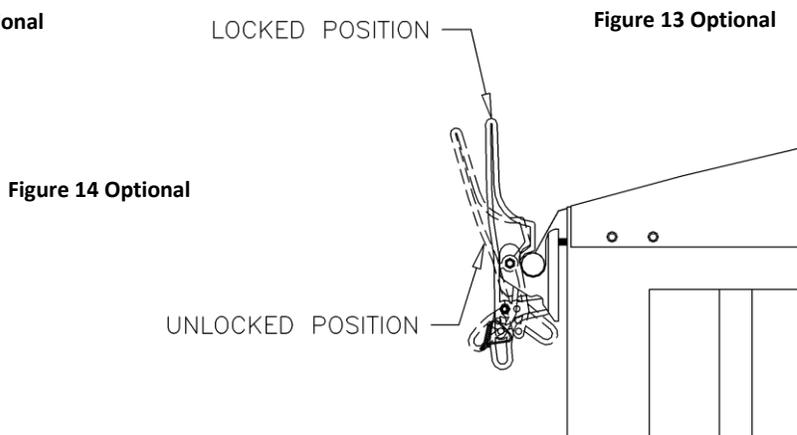

Figure 14 Optional
Procedure: Locate the front round bracket (J) 4 inches in from the face of the front end cap and 3/4" lower than the top edge of the trailer. Using a 5/16" drill bit, drill two holes through the predrilled holes in the bracket and into the trailer. Secure the bracket to the trailer using two 3/8"x1-1/4" self-threading bolts (K) provided. Remove the 1/4"x3" hex bolt (L) from the flip-release tarp stop (M). Insert the bolt through the bracket (J) and through the tarp stop (M). Secure using the 1/4" lock nut. Torque the bolt appropriately so the flip-release tarp stop will remain in the unlocked position (see Figure 14). Remove the quick pin from the bottom hole of the flip-release tarp stop and adjust the tarp stop so it is in the unlocked position (see Figure 14). Install the rear bracket 4 inches in from the face of the rear end cap and 3/4" lower than the top edge of the trailer. Evenly space the remaining flip-release tarp stops along the same side of the trailer making sure to mount the brackets 3/4" lower than the top edge of the trailer. Position the quick release pipe (N) in the round
brackets (J) (see Figure 12-13). Adjust the tarp so that it sits two inches in from wind deflector on the front end cap. Once the tarp is in position engage the stops into the locked position (see Figure 14). Reinsert the quick pins through the bottom holes in the round flip-release stops. (See next page for diagrams)